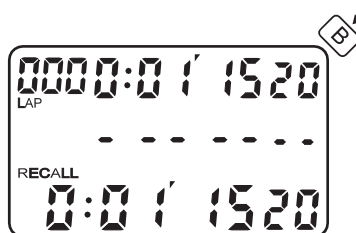

Fig. 16
- Press B to start, the display is as shown in Fig.16.